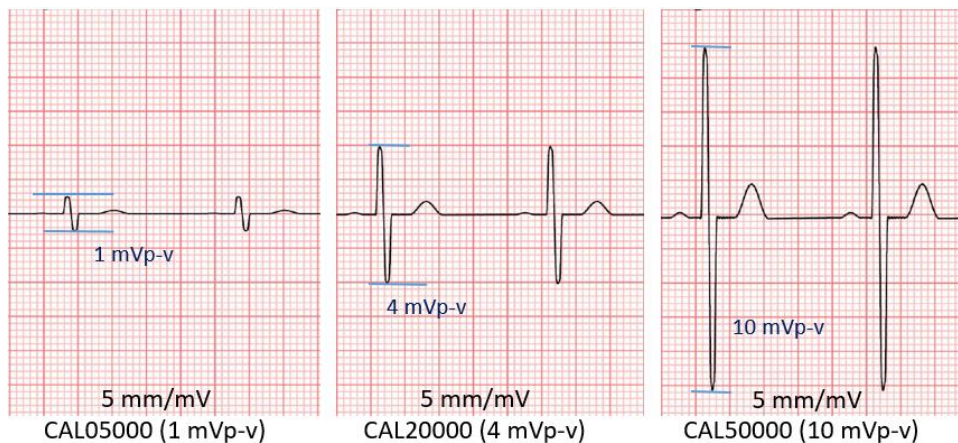

Figure 11, CAL signals display waveform
- 6) Alternatively, you can use the calibration ECG signals CAL05000, CAL20000, and CAL50000 signals instead of the 40Hz sinusoidal signal input to the DUT ECG. The peak-to-valley values of these calibration signals from R wave to S wave are 1 mV, 4 mV and 10 mV. Fig. 11 is the display waveform of these CAL signals.